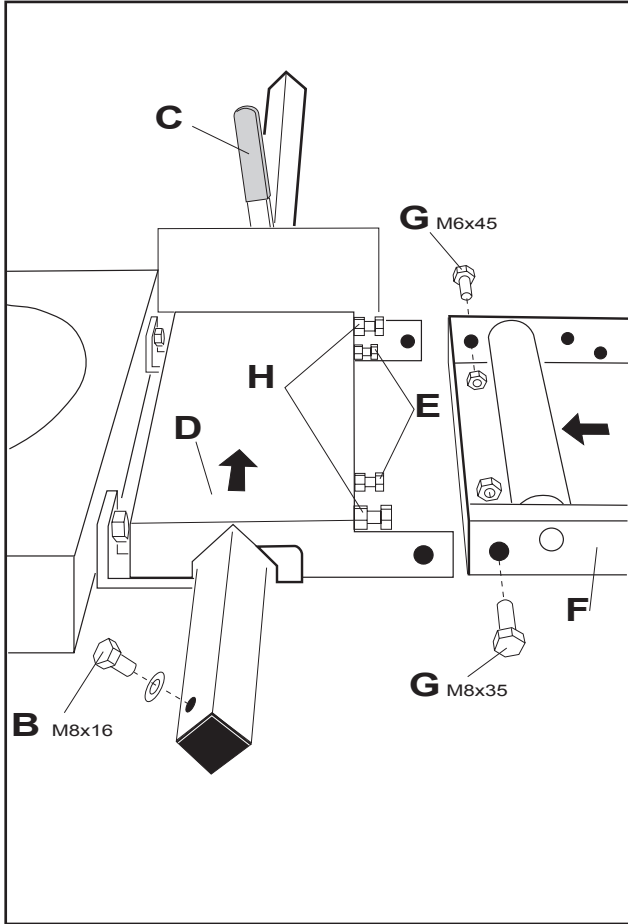
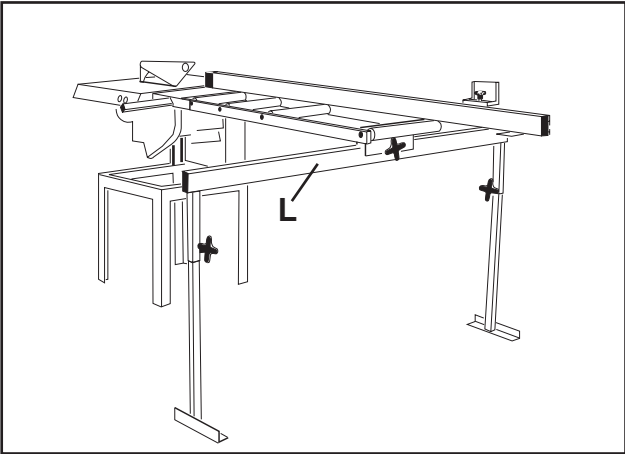

Fig. 2
Fig. 4
- Mount the handle to the elevation arm (Fig. 2).
- Loosen the screws and position the top guard as shown in Fig. 4 and 5. Tighten the screws firmly.
- Unscrew the stop screw **B** (Fig. 2).
- Use the support trestle **L** (Fig. 4) when assembling the infeed table **F** (Fig. 2). Affix the infeed table to the roller unit using screws and nuts **G** (do not screw too tightly).
- Lower the trestle **L** (Fig. 4), and push the fence into position. Raise the trestle.
- Adjust the legs of the trestle **L** (Fig. 4) so that both ball bearings rest against the trestle.